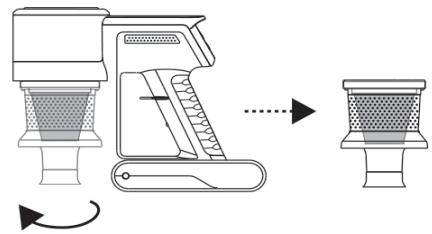

FIG. 9
4. Turn the metal filter clockwise to release it (FIG.9)